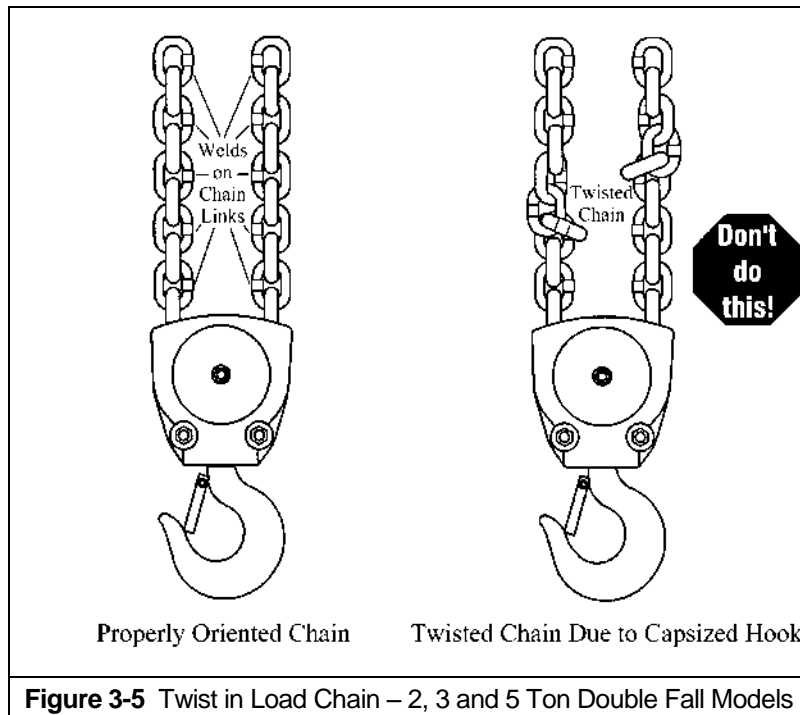

Figure 3-5 Twist in Load Chain – 2, 3 and 5 Ton Double Fall Models
3.2.6 **⚠️WARNING** Verify that the load chain is not twisted or tangled prior to operating the hoist. Make sure the bottom hook on 2, 3 and 5 Ton double fall models is not capsized. See Figures 3-5 and 3-6. Correct all chain irregularities before conducting the first hoist operation.